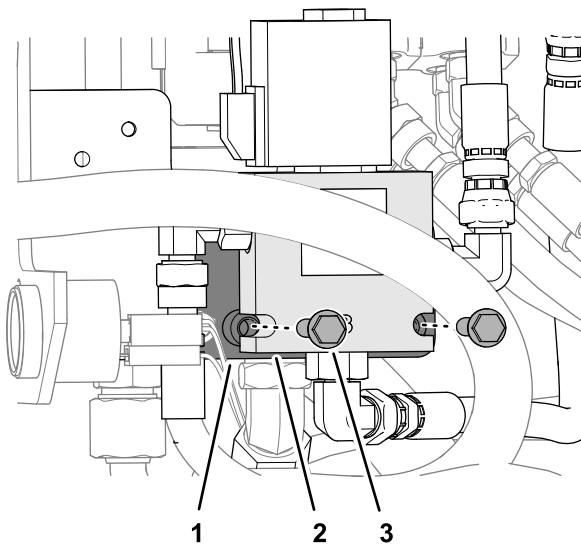

Figure 31
- 1. Align the notches in the body of the traction enable valve with the threaded support tubes if the low-flow valve bracket (Figure 31).